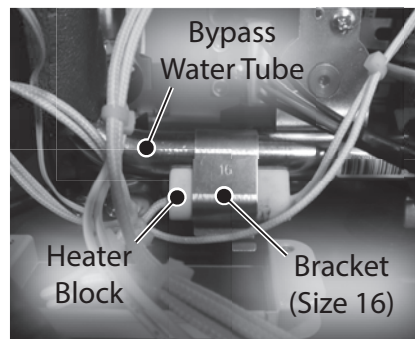

Figure 207 - Remove heater block and bracket from bypass water tube
- 17** Locate the heater block attached to the tube as shown in Figure 207. Remove bracket (size 16) securing heater block to tube. Place bracket aside in a safe place for reinstallation. Route heater block and wiring inside water heater cabinet.